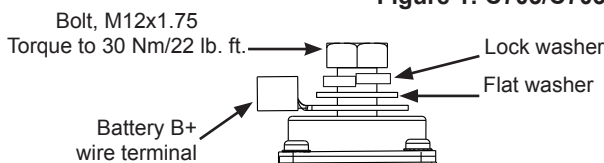

Figure 2: B+ Terminal Hardware Stacking Order
- Connect vehicle B+ cable to alternator B+ terminal. Install hardware on B+ terminal in stacking order shown in Figure 2. Torque to 30 Nm/22 lb. ft.